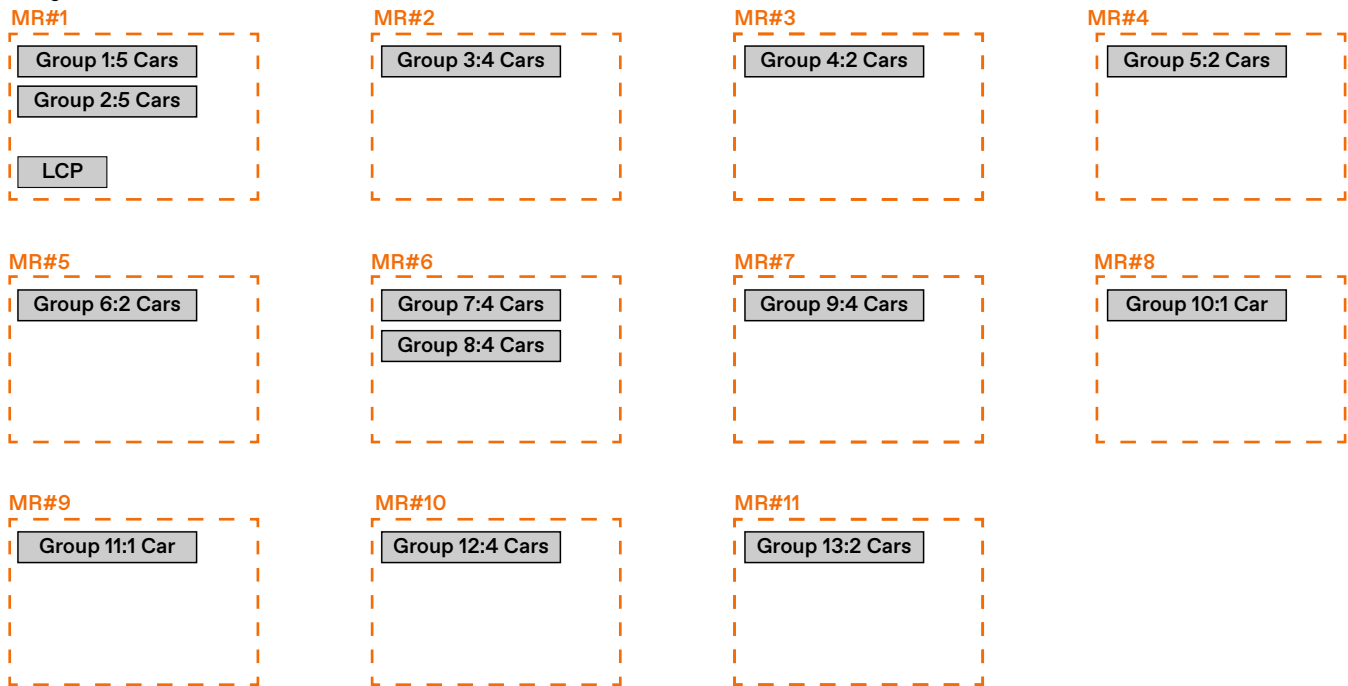

Figure 20 - Network Diagram Example
5. Draw a diagram of elevator groups and machine room locations, and list how many cars are in each group. See Figure 20 on page 98, and Guidelines when Selecting Large Campus Equipment Boxes on page 99.